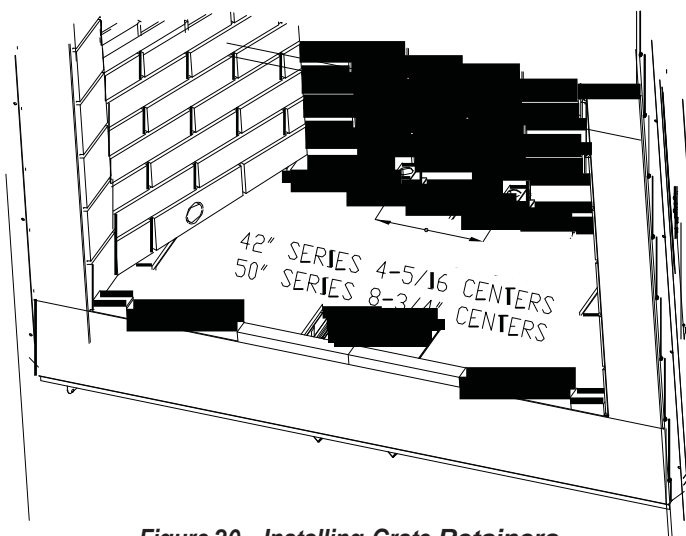

Figure 20 - Installing Grate Retainers
3. Position "Z" shaped grate retaining brackets on top of the notched area toward the rear of the bottom refractory. They should be positioned a distance apart as shown in Figure 20.